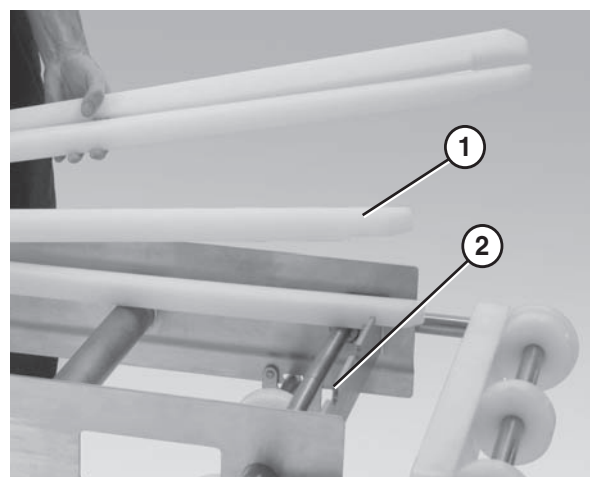

Figure 30
1. Position the wear strips (**Figure 30, item 1**) on the frame.
2. Make sure the wear strips are situated securely in the frame slots (**Figure 30, item 2**).